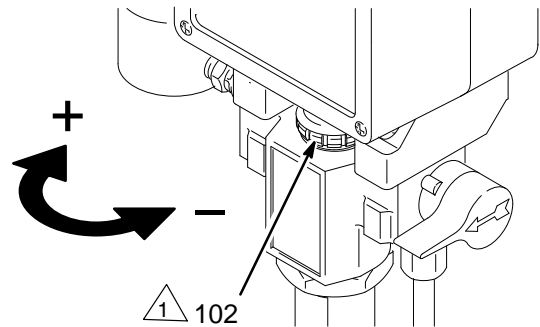

Fig. 9
2. **Tighten the packing nut/wet-cup (102) just enough to stop leakage.** Over-tightening causes binding and excessive packing wear. Use a round punch or brass rod and a light hammer to adjust the nut. See Fig. 9.